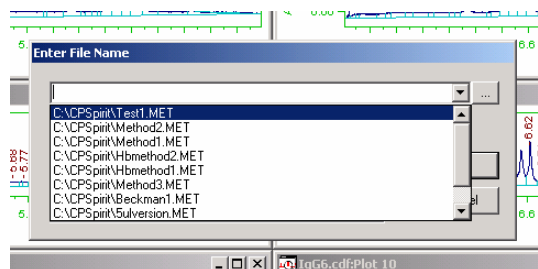

Figure A-40: Selecting Saved Method Files to Open
3. Then, use the drop-down button to select the cached method filename or use browse button (...) at the right side of the window to open the method file (**Test1.MET**) as shown in Figure A-40.